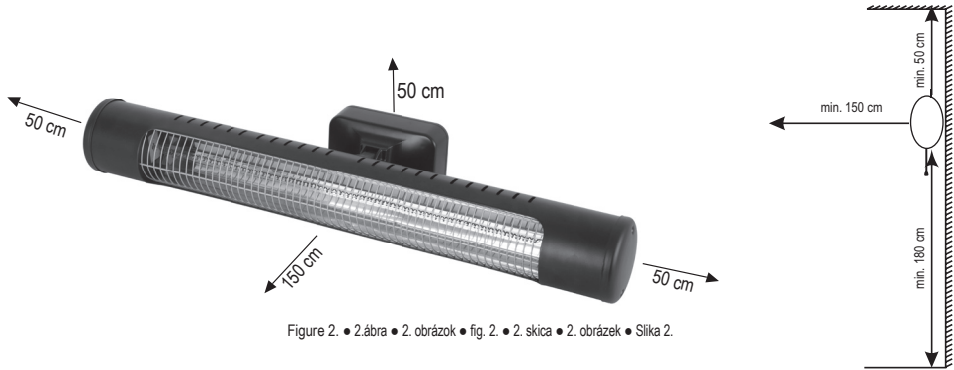

Figure 2. • 2.ábra • 2.obrazok • fig. 2. • 2.skica • 2.obrazek • Silka 2.
6. Never locate the unit directly in corners and observe the minimum mounting distances indicated in Figure 2. Always observe the health and safety regulations valid in the country of use.
4. To ensure proper operation, you have to arrange for the free circulation of hot air. Therefore, please, select the location of the unit on the wall according to **Figure 2**. It is forbidden to mount the unit directly below a power socket.